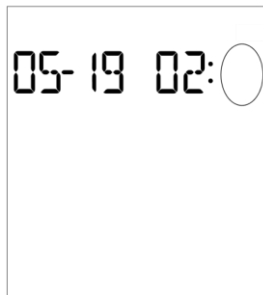

Fig 5.6
- 5) Press the right or left button to select the target minute, short press of the power button to save the minute setting and end the setting (Ref Fig 5.6).